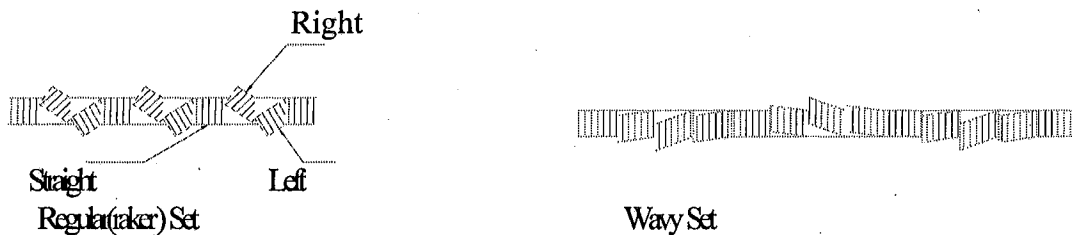

Fig. 6.1 The saw set
- Wavy set has groups of teeth set alternately to right and left, forming a wave-like pattern. This reduces the stress on each individual tooth, making it suitable for cutting thin material or a variety of materials where blade changing is impractical. Wavy set is often used where tooth breakage is a problem. This is shown in Fig. 6.1 as follows: